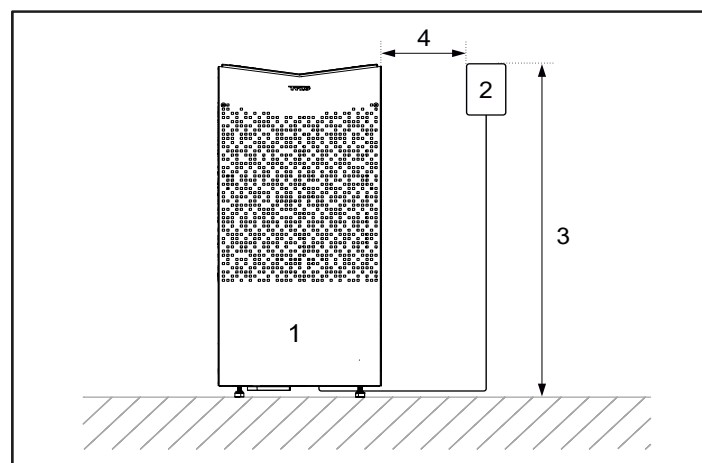
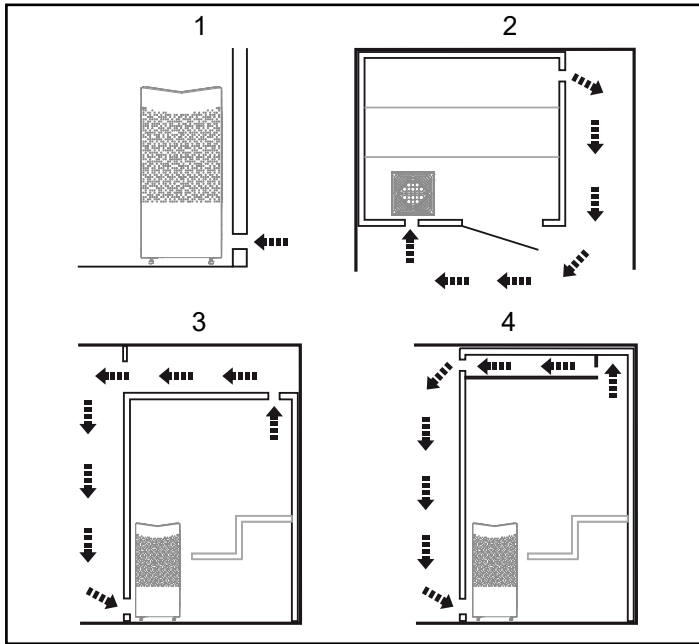

Figure 5: Safety distance / installation height, control panel
Figure 6: Positioning the air intake and exhaust vents
- Plan the control panel positioning (see the attached instructions for the control panel for allowable positioning). See also the Control Panel section, Figure 5.
- Position the air intake vent (see the Air intake vent positioning section, Figure 6).
- Position the air exhaust vent (see the Air exhaust vent positioning section, Figure 6).
The control panel may be placed inside a Tylö sauna room or a self-built sauna room with correct ventilation which operates according to Tylö-recommended ventilation (natural ventilation principle). Read the sections titled, Positioning the intake vent and Positioning the outlet vent in these instructions, figure 6. The control panel must always be placed outside the sauna cabin if these requirements are not met. If installing the control panel inside the sauna cabin, it should be positioned with regard to safety distances and installation height, see Figure 5.
- at the maximum possible distance from the air intake vent, e.g. diagonally (see Figure 6).
- high on the wall or in the ceiling (see Figure 6).